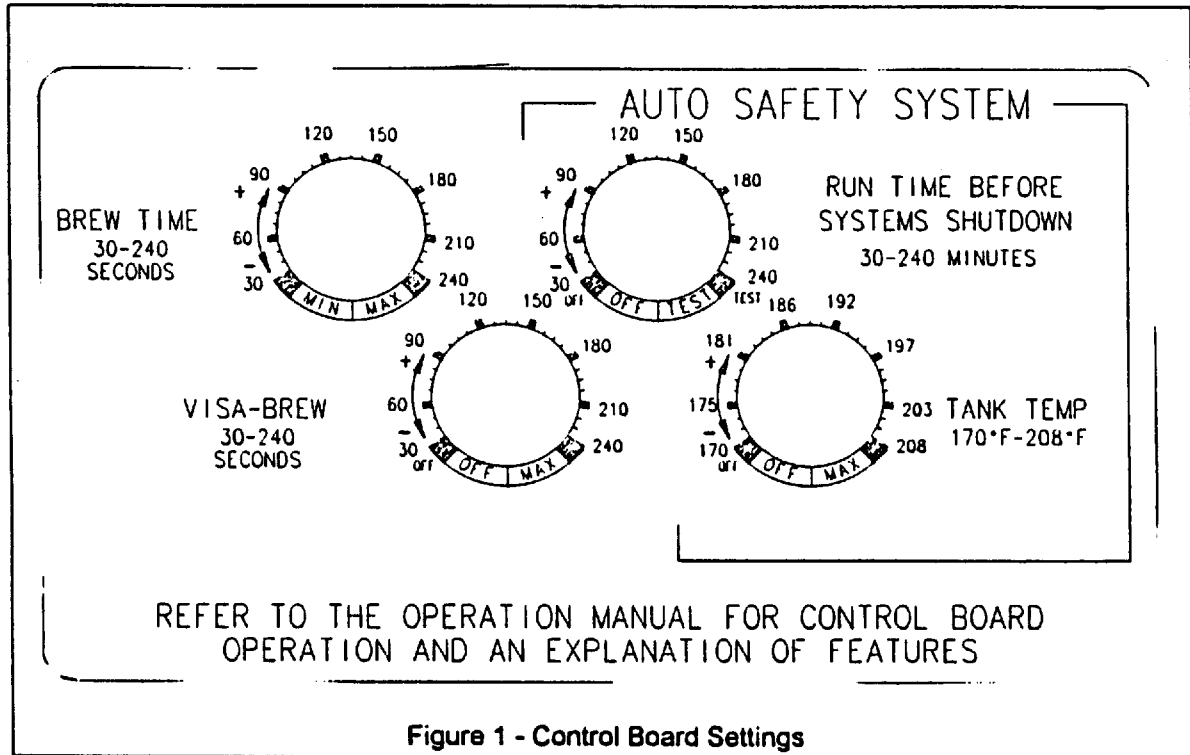

Figure 1 - Control Board Settings
- 3) When water begins to flow from brew basket the brew cycle may be canceled by depressing the cancel button on the control panel. Allow water to finish draining from the unit and then empty the decanter and replace below brew basket. Depress the full pot brew start switch. After the brew cycle has finished check volume of water in the container. Adjust the "Brew Time" with the control board located behind right side access plate. Turn the dial Clockwise to increase the volume of water and counterclockwise to decrease it. See Fig 1 for control board setting information.
- 4) Allow 10-15 minutes for the water in the tank to heat to brewing temperature. Depending on the "Tank Heater Mode" Selected with switch on the back of unit it may be necessary to have the power switch on for the tank to heat up to operating temperature. The heating light will go out when the unit is up to temperature. Run one brew cycle to check for the proper temperature setting with an accurate thermometer. Take the temperature of this water at a point below the brew basket opening, at the start of the brew cycle and when the decanter is half full. Recommended temperature of the water is approximately 195 F. (Note: Brew cycle may be canceled by the pressing the "Cancel" button). The brewer features an electronic temperature control circuit and the temperature may be adjusted with the control board located behind the right side access plate. See Fig 1 for control board setting information.
Digital Brew Timing is accurate to within .1 seconds over the entire adjustment range of 30 to 240 seconds. Brew time adjustment knob may be turned down during the brew cycle until brewing stops. Can aid in setting the unit up. See Fig 1 for setting information.
Visa-Brew continues to flash the brewing light after the fill portion of the brew cycle has stopped alerting the user that the brewed hot coffee has not finished draining from the brew basket. This popular feature has been enhanced with an autocal feature. Simply turn the adjustment dial all the way up, start a normal brew cycle as described under the "OPERATION INSTRUCTIONS", and after the brewed coffee has quit dripping from the basket turn the dial down just until the light quits flashing. Visa Brew is now custom set for your machine, filters, and coffee. See Fig 1 for setting information.